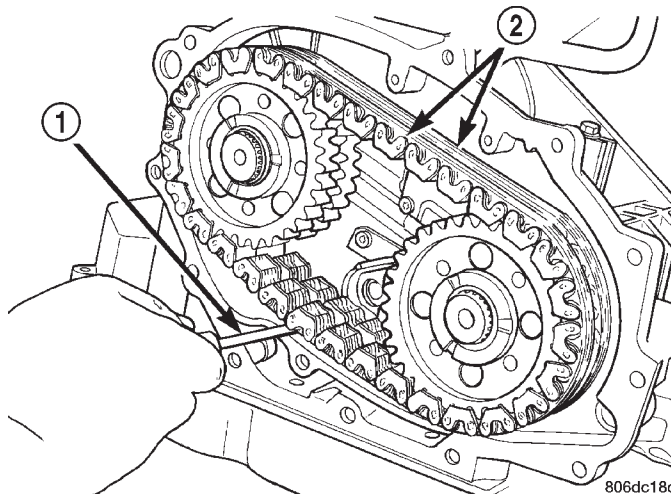

Fig. 441 Screwdriver Placement
- (4) Insert a screwdriver into the 18 mm hole with the screwdriver **BELOW** the chains (Fig. 441). An assistant may be needed to perform this step.